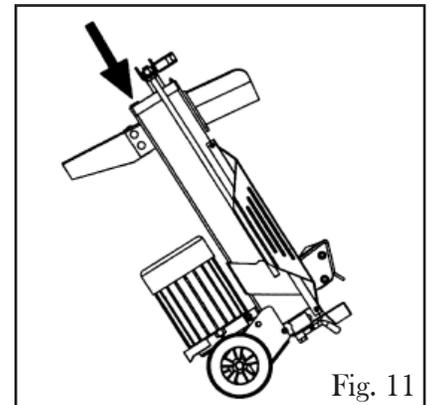

Fig. 11
4. Raise the splitting edge end of the log splitter and make sure it is secure before refilling the hydraulic fluid (Fig 11).